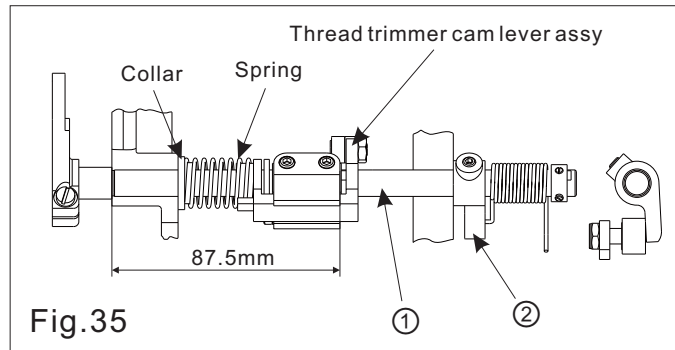

Fig.35
3. Thread trimmer cam lever shaft (Fig.35)